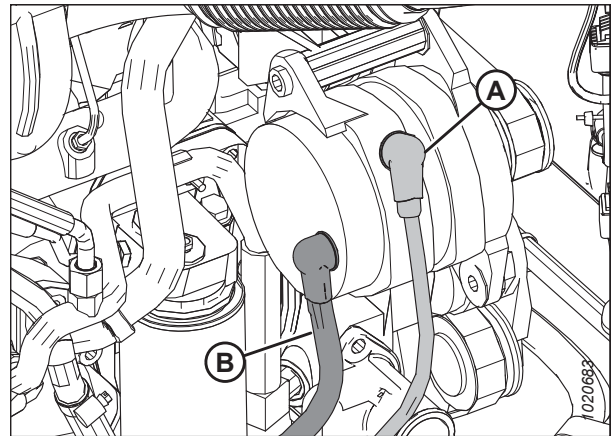

Figure 5.32: Alternator
- Do **NOT** short across battery or alternator terminals or allow battery positive (+) cable (B) or alternator wire to become grounded.
- If wires are disconnected from the alternator, refer to Figure 5.32, page 359 to ensure proper connection.